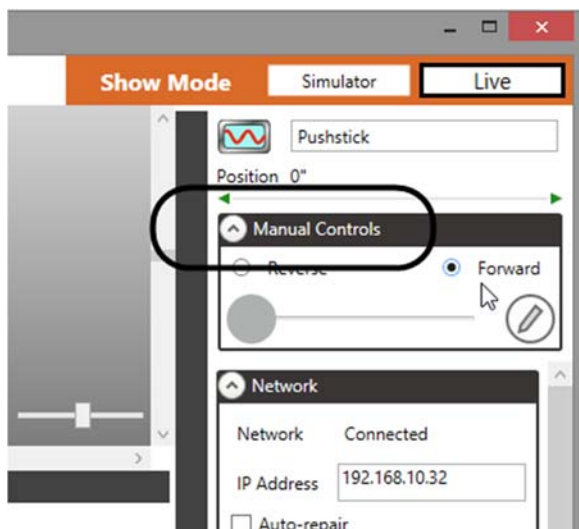

Figure 82
2. With the motor still selected in the **Cue Grid**, find the **Manual Controls** in the top portion of the **Stagehand Editing Pane** (Figure 82).